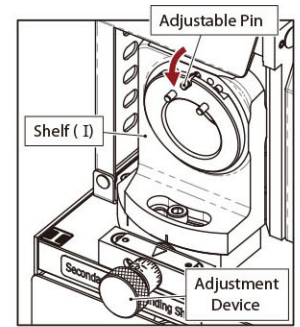

Fig. 9-1
1. Secondary Relief Grinding Shelf (I) (Fig. 9-1)
- ① Move the adjustable pin on the Shelf (I) from the top to bottom.
- ② Adjust the cutting face adjustment device to "0", after finishing the whole sharpening procedure, then adjust this device according to your needs.